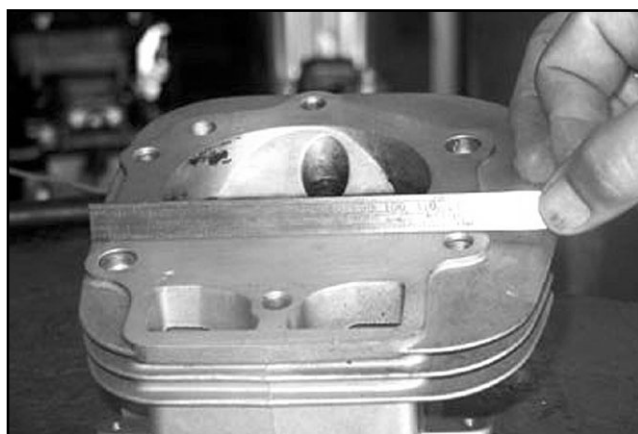

Figure 5-7. Check Cylinder Head Distortion
1. Check cylinder head (Figure 5-7). Be sure all gasket material is removed from surfaces before checking. Use a gasket scraper if necessary.